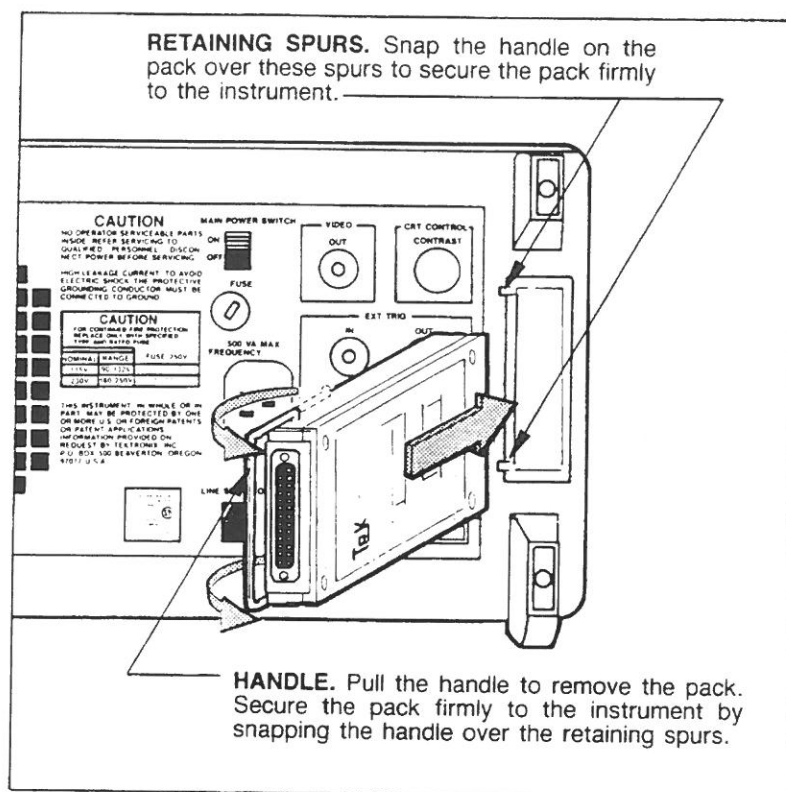

Figure 1. Installing a 1200C01 RS-232C COMM Pack in a 1240/1241 Logic Analyzer. Do not install or remove a COMM Pack while dc power is on.
- If you have a 1240/1241 Logic Analyzer, insert the COMM Pack into the COMM Pack port located on the rear of the instrument, as shown in Figure 1. Secure the bow handle to the spurs on the instrument to prevent the COMM Pack from working loose.